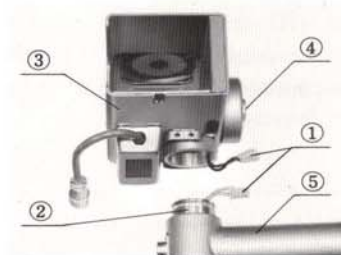

Fig. 1
❶ Set up the pillar.
❷ Preparation for mounting the lamp housing (see picture right).
③ Mounting the lamp housing (Fig. 1)
- a) Connect the two nylon connectors ①.
- b) Insert the nylon connectors into the opening of the lamp housing mount ② and place the lamp housing ③ on the mount ②.